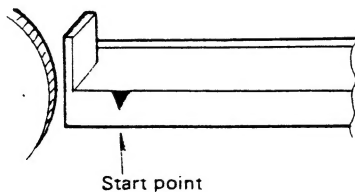

Fig. 13
4. Mount the Radio Dial pointer at the start point on the Radio bracket as shown in Fig. 13.